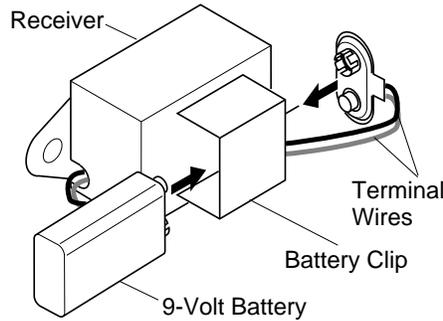

Figure 23 - Attaching Battery to Receiver
4. Locate the battery clip mounted on the back of the receiver (see Figure 23).
6. Attach the terminal wires to the battery (see Figure 23).